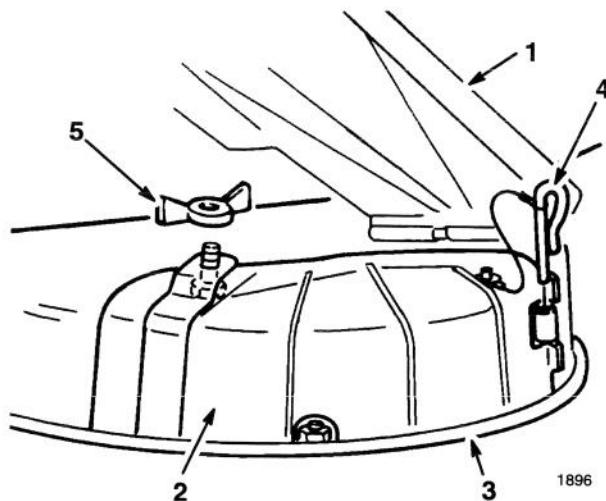

Figure 11
- Lift the grass deflector and place the discharge cover over the opening onto the lower lip of the mower and slide into the front hinge (Fig. 11).
- Slide the hinge pin through the hinge (Fig. 11).
- Secure the discharge cover to the mower with the wing nut (Fig. 11).